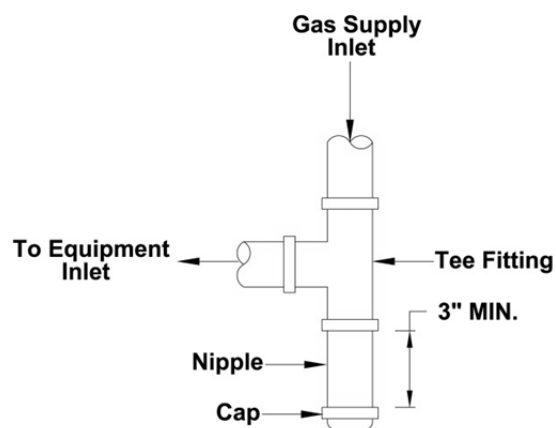

Figure 27 - Sediment Trap (Typical)
- 🔥 NFPA Code and Hearthstone require the use of a dedicated sediment trap just upstream of the unit. Damage to the valve, or other components due to the lack of a sediment trap are not covered by warranty (see figure 27).